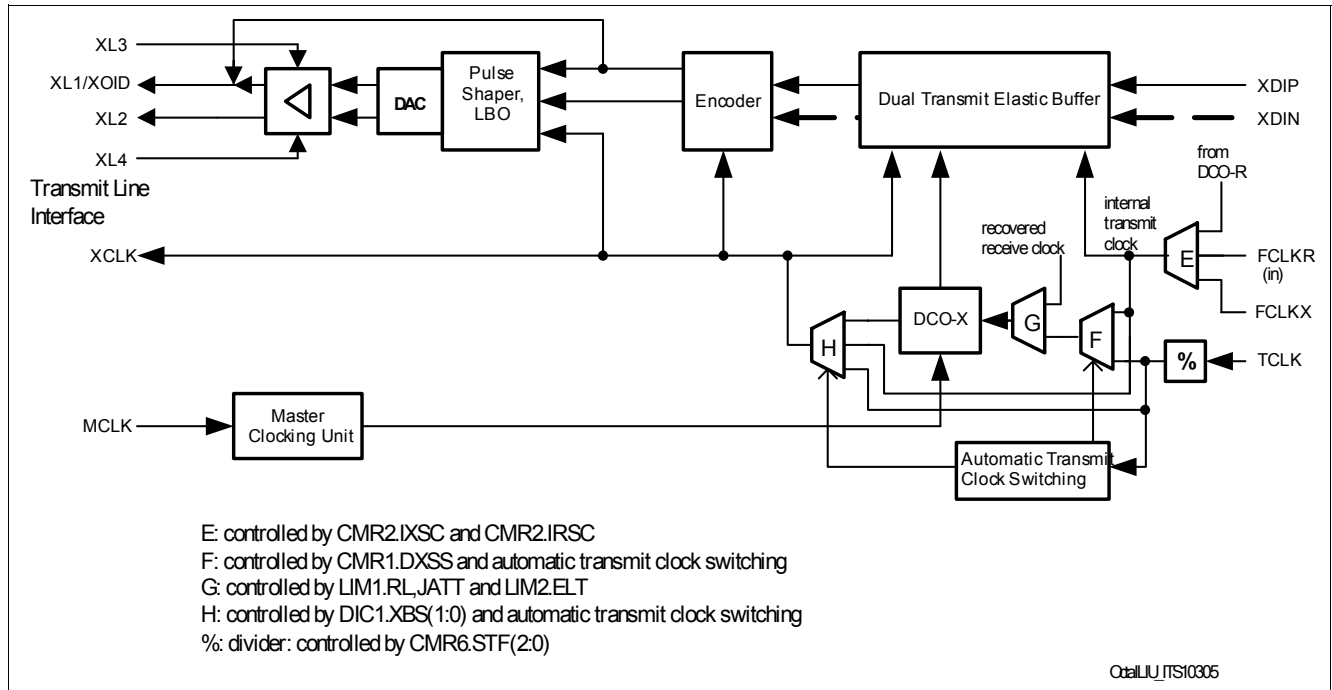
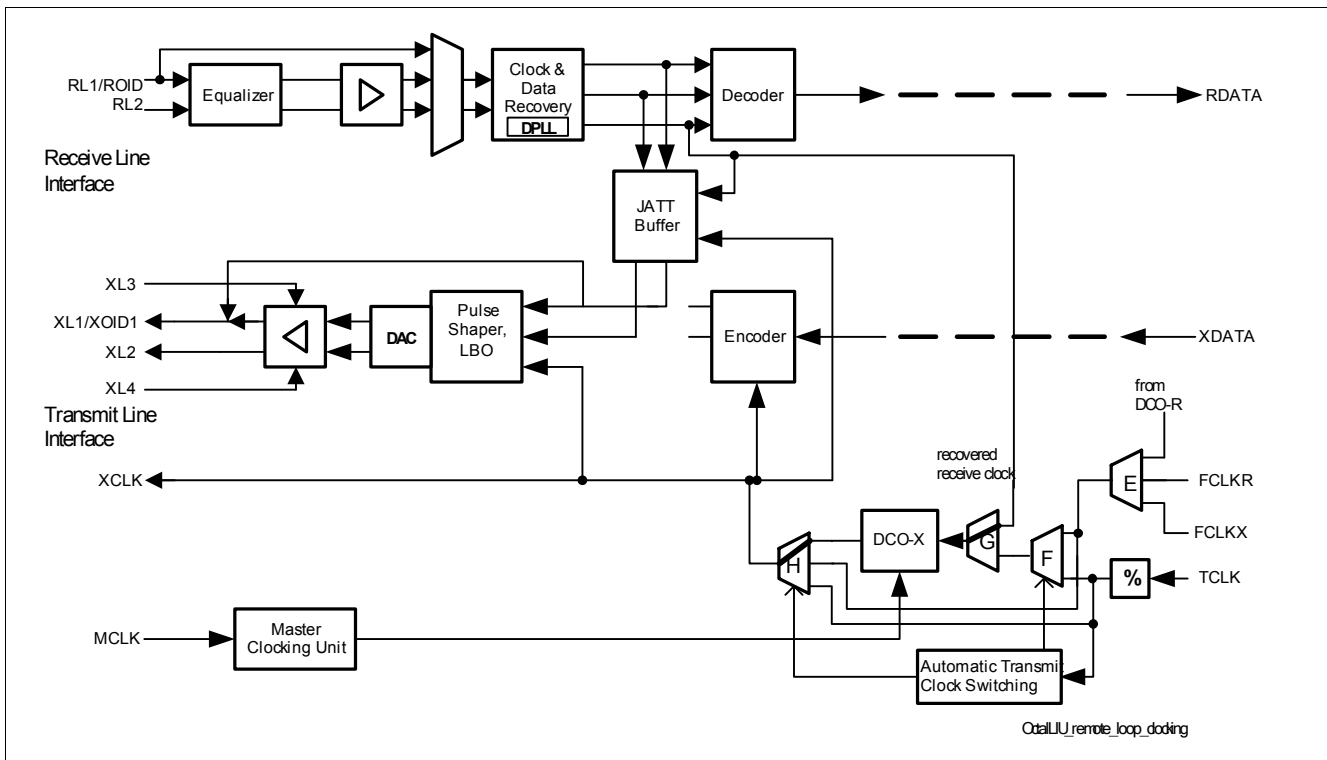

Figure 29 Transmit System of one Channel
Figure 31 Clocking and Data in Remote Loop Configuration
The transmit path of the OctaLIU™ is shown in Figure 29.
The transmit clock input TCLK (multi function port) of the OctaLIU™ can be configured for 1.544, 3.088, 6.176, 12.352 and 24.704 MHz input frequency in T1/J1 mode and 2.048, 4.096, 8.192, 16.384 and 32.768 MHz input frequency in E1 mode. Frequency selection is done by the register bits CMR6.STF(2:0) (CMR6). See divider “%” in Figure 29.
- If the TCLK input is used directly as source for the transmit clock XCLK, the output of the DCO-X is not used. The DCO-X reference clock is FCLKX. If loss of TCLK is detected, the transmit clock XCLK will be switched automatically (if CMR6.ATCS = '1') to the DCO-X output which is synchronous to FCLKX (see multiplexer “H” in Figure 29). If XCLK was switched to the DCO-X output and TCLK becomes active, switching of XCLK (back
- If the transmit clock XCLK is sourced by the DCO-X output and the DCO-X reference clock is TCLK, the DCO-X reference will be switched automatically (if $CMR6.ATCS = '1'$) to FCLKX (see multiplexer “F” in Figure 29) after a loss of TCLK was detected. If the DCO-X reference was switched to FCLKX and TCLK becomes active, switching of the reference (back) to TCLK is automatically performed if $CMR6.ATCS = '1'$. All switchings of the reference between TCLK and FCLKX are shown in the interrupt status bit $ISR7.XCLKSS1$ which is masked by $IMR7.XCLKSS1$. For these kinds of automatically switching, the transmit clock XCLK fulfills the jitter-, wander- and frequency deviation- requirements as specified for E1/T1 after the clock source of the DCO-X was changed. If $CMR6.ATCS$ is cleared, TCLK is used (again) as reference for the DCO-X, independent if TCLK is lost or not. The interrupt status bit $ISR7.XCLKSS1$ will be set also.
The transmit jitter attenuator is based on the so called DCO-X (digital clock oscillator, transmit) in the transmit path. Jitter attenuation of the transmit data is done in the transmit elastic buffer, see Figure 29. The DCO-X circuitry generates a “jitter-free” transmit clock and meets the E1 requirements of ITU-T I.431, G. 736 to 739, G.823 and ETSI TBR12/13 and the T1 requirements of AT&T PUB 62411, PUB 43802, TR-TSY 009, TR-TSY 253, TR-TSY 499 and ITU-T I.431, G.703 and G. 824. The DCO-X circuitry works internally with the same high frequency clock as the DCO-R. It synchronizes either to the working clock of the transmit system interface (internal transmit clock) or the clock provided on multi function pin TCLK or the receive clock RCLK (remote loop/loop-timed). The DCO-X attenuates the incoming jitter starting at its corner frequency with 20 dB per decade fall-off. With the jitter attenuated clock, which is directly depending on the phase difference of the incoming clock and the jitter attenuated clock, data is read from the transmit elastic buffer (512/386 bit) or from the JATT buffer (512/386 bit, remote loop), see Figure 31. Wander with a jitter frequency below the corner frequency is passed transparently.
The jitter attenuated clock is output on pin XCLK if the transmit jitter attenuator is enabled, see multiplexer “H” in Figure 29.
The transmit jitter attenuator can be disabled. In that case data is read from the transmit elastic buffer with the clock sourced on pin TCLK, see multiplexer “H” in Figure 29. Synchronization between FCLKX and TCLK has to be done externally.
In the loop-timed clock configuration (LIM2.ELT) the DCO-X circuitry generates a transmit clock which is frequency synchronized on RCLK, see Figure 31 and multiplexers “G” and “F” in Figure 29. In this configuration the transmit elastic buffer has to be enabled.
The received single rail bit stream from pin XDI or dual rail bit stream from the pins XDIP and XDIN are optionally stored in the transmit elastic buffer, see Figure 29. The transmit elastic buffer is organized as the receive elastic buffer. The functions are also equal to the receive side. Programming of the dual transmit buffer size is done by DIC1.XBS(1:0) in the same way as programming of the dual receive buffer size by DIC1.RBS(1:0), see Table 21: The functions of the transmit buffer are:
Writing of received data from XDIP/XDIN is controlled by the internal transmit clock. Selection of FCLKX or FCLKR is possible, see multiplexer “E” in Figure 29. (If the DCO-R output is selected, the DCO_R output is also output at FCLKR.)